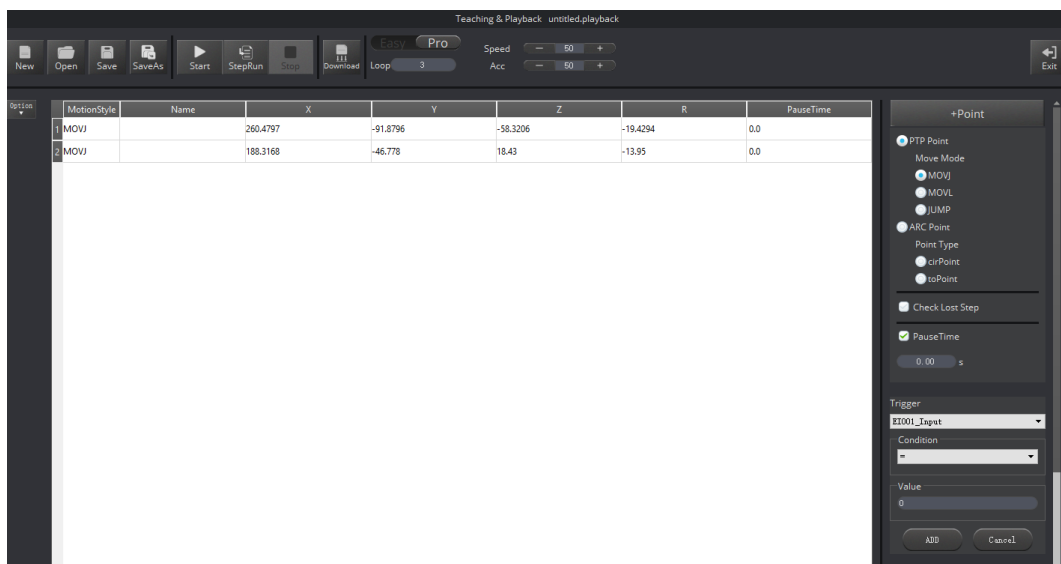

Figure 5.16 The Pro mode of the Teaching & Playback function
- Pro mode:** To enter the **Pro** mode from the current **Easy** mode, click the **Easy/Pro** slider, as shown in Figure 5.16. Apart from all the functions in the default **Easy** mode, the **Pro** mode allows the robotic arm to run a save point each time, detect lost-steps, work in offline mode, and perform the multiplexed I/O interface. For details, see Table 5.9.